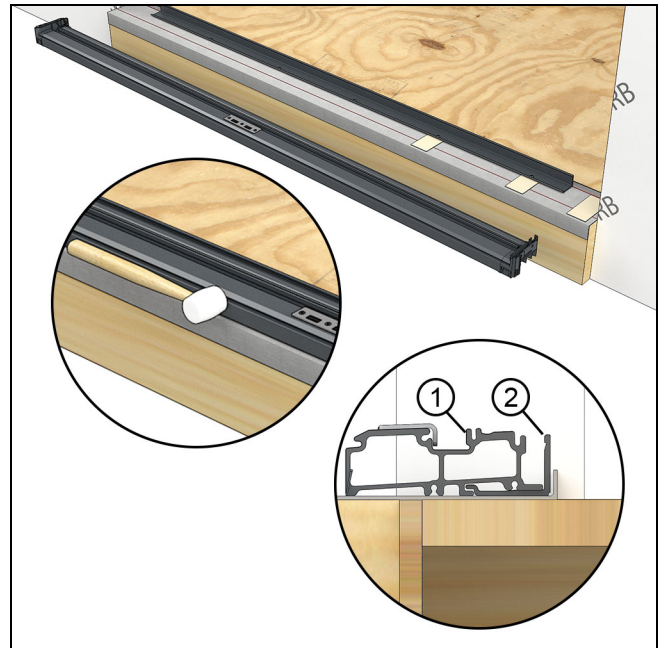

Figure 10
5. Temporarily install the sill frame member centered in the rough opening. Tap the sill into the sill support with a rubber mallet. See Figure 10